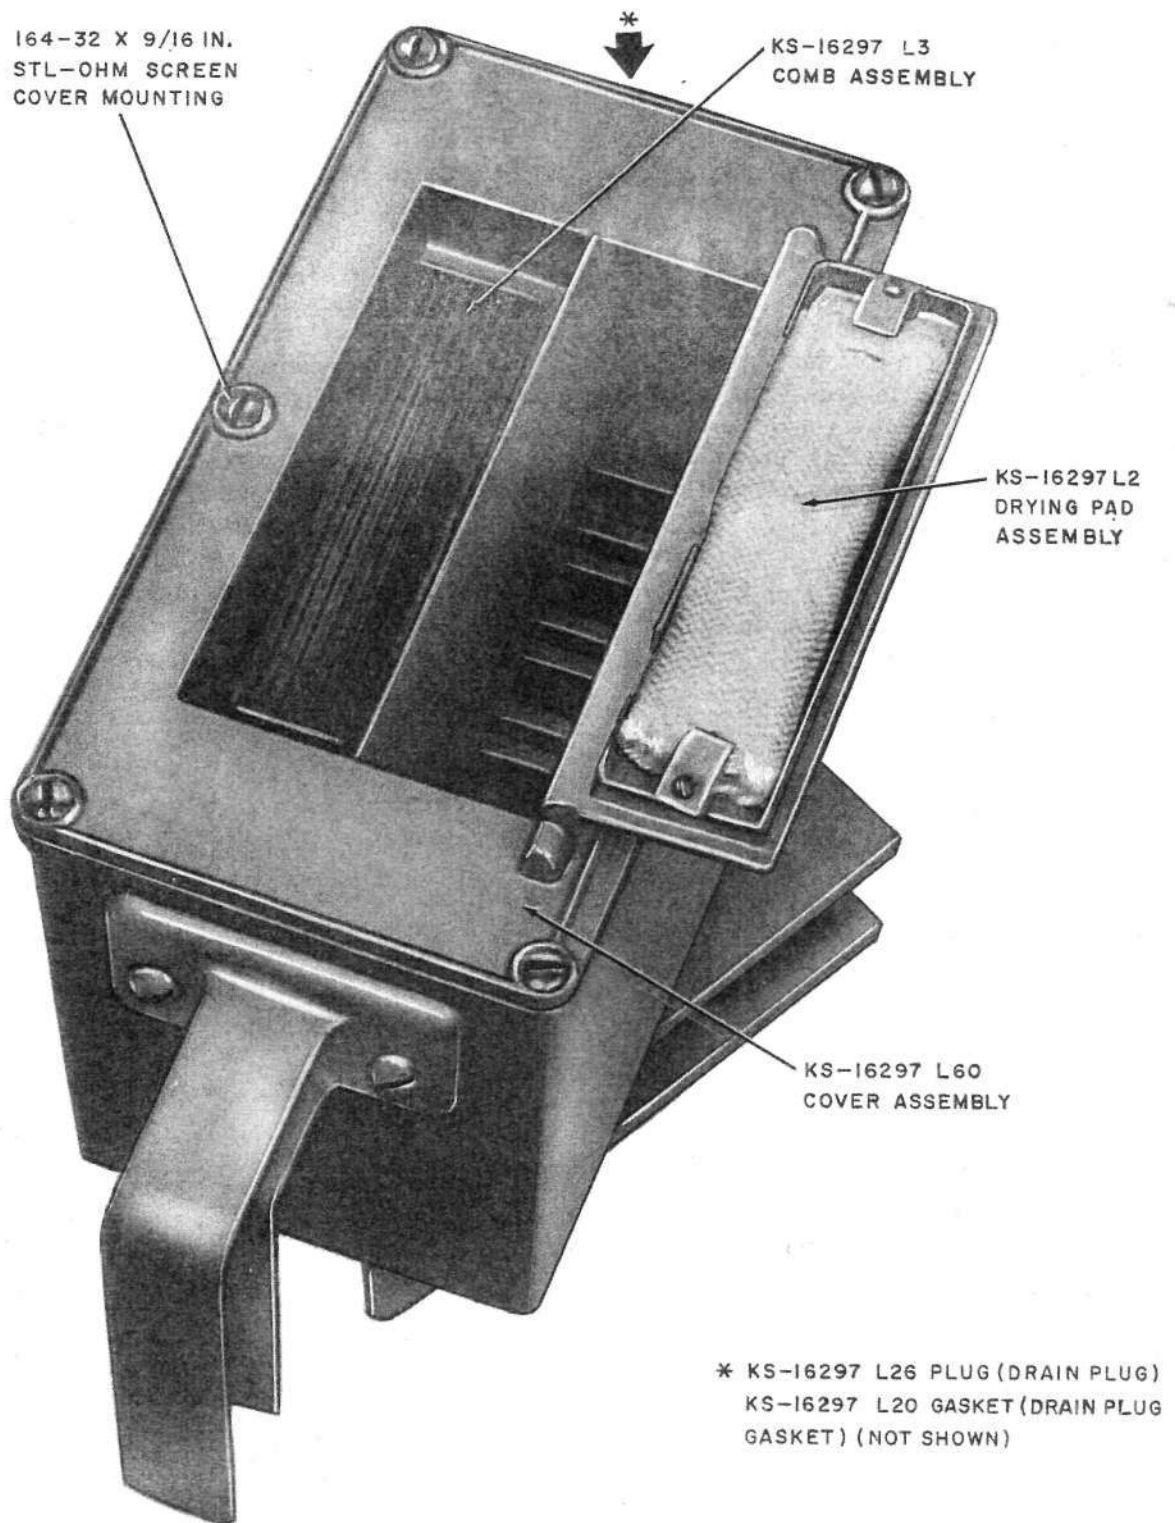

Fig. 14—Replaceable Parts of KS-16297 L70 Flushing Unit
**8.01**      Ordering information for parts of the flushing unit that can be replaced in the field is given in Fig. 14. The part numbers are given in the figures with the names of the parts as listed by the Western Electric Merchandise Department. Where these names differ from those in general use, the latter names, in some cases, are shown in parentheses.